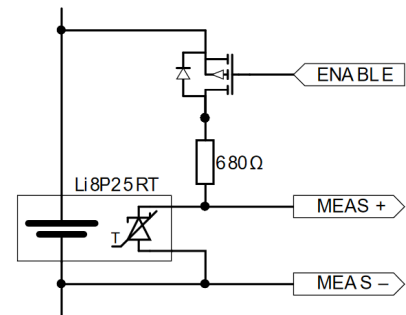

Figure 4: Test circuit.
The sensor is a special-made temperature-variable voltage shunt reference. In simple words, it acts as a zener diode, whose voltage drop depends on temperature. It requires a pull-up resistor (680) to operate at cell voltage level. For convenience, the module can be used to power the sensor as given in test circuit in Figure 4.